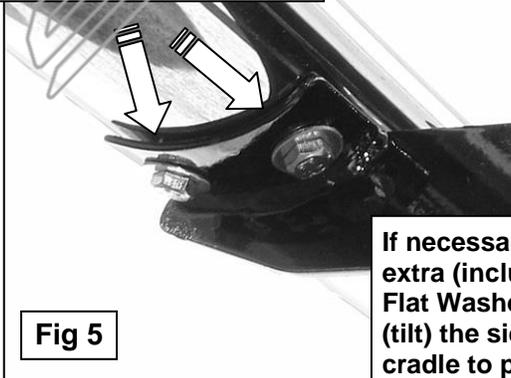

Fig 5
6. Properly level and adjust the Sidebar, then tighten all hardware at this time. NOTE: Due to variables in vehicle manufacturing, additional 8mm Flat Washers are included for use as an adjustment shim to properly level and adjust the sidebar on the cradle, **(Figure 5)**. Place washers as required between the cradle and the sidebar.